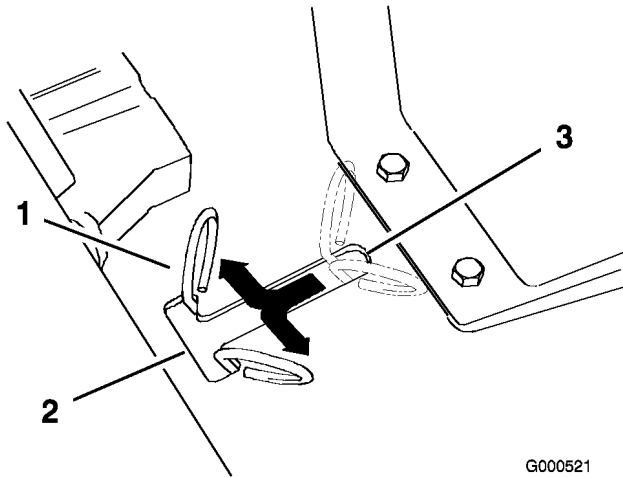

Figure 15
3. Raise the seat to access the bypass levers (Figure 15).
4. Move the two bypass levers forward and then outward to lock them in place as shown in Figure 15.
Move the bypass levers to the inside and pull them rearward, to the end of the slot (Figure 15).